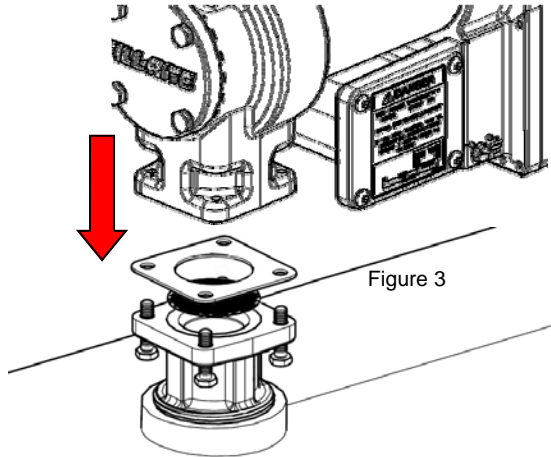

Figure 3
3. Mount the pump on the adapter; making sure the seal and screen are installed as shown. (Figure 3).